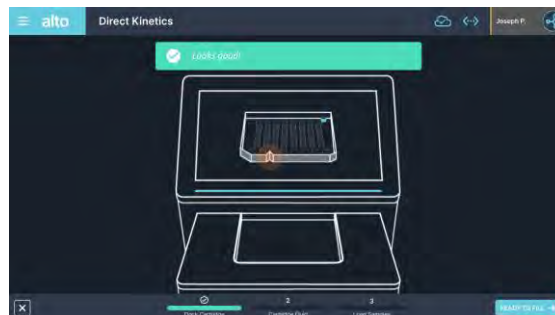

Figure 5.22: Cartridge docking screen.
1. The software setup screen will now instruct the user to load the cartridge (Figure 5.22).